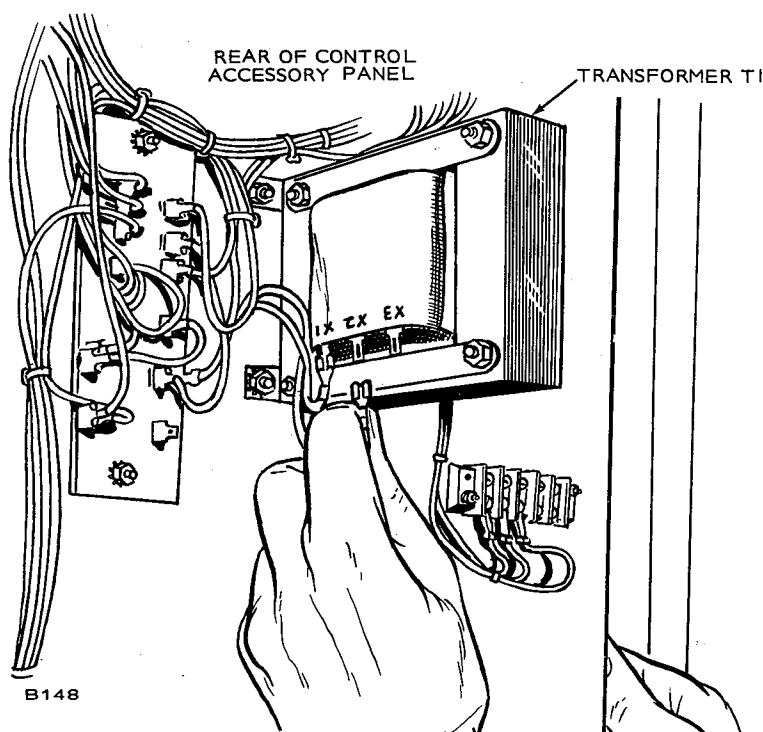

FIGURE 7. BATTERY CHARGER TRANSFORMER DC CONNECTIONS
6. Remove the wire lead from transformer T1 terminal T1-X3 and connect to terminal T1-X2 (Figure 7).
6. Remove the wire lead from transformer T1 terminal T1-X2 and connect to terminal T1-X3 (Figure 7).